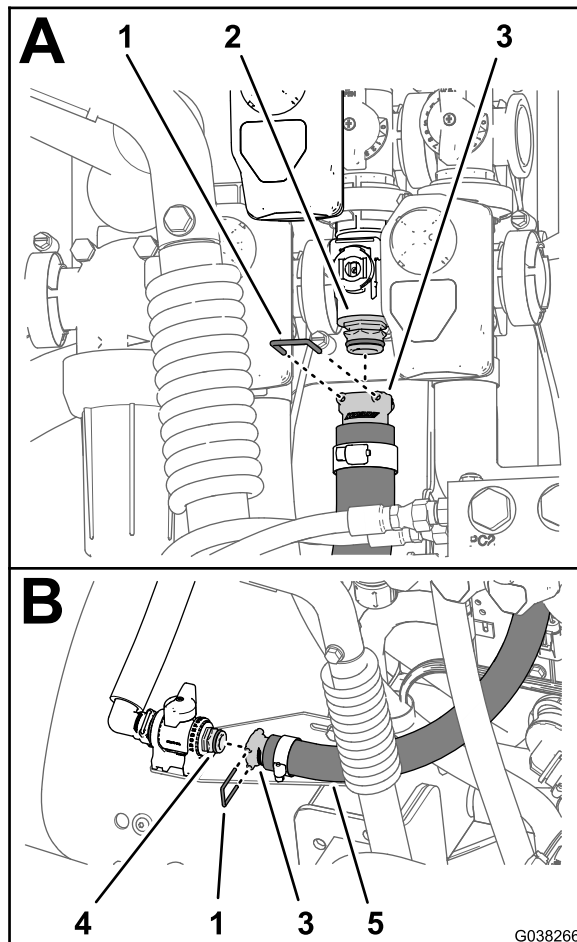

Figure 66
1. Assemble the quick-connect fitting (straight barbed) of the agitation supply hose—2.5 x 72 cm (1 x 28-1/4 inches) onto the quick coupling of the agitation control valve with the retainer that is supplied with the hose (Figure 66).